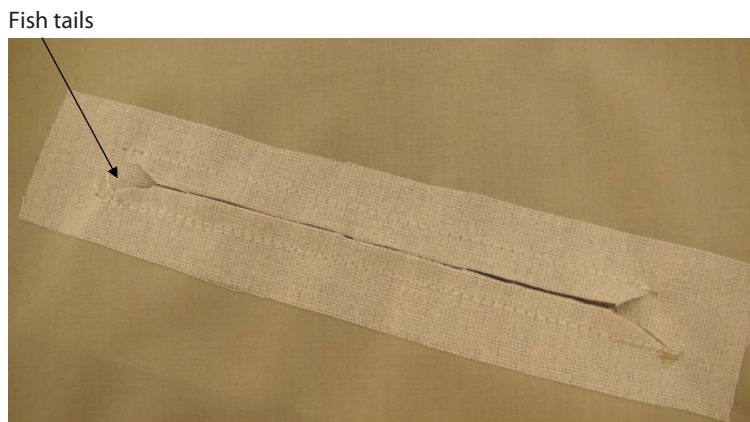

Figure 42
7. Cut between the two lines of stitching (finishing approximately 1cm from the end of the shortest row of stitching). Mitre the corners, forming the fish tails (see Figure 42).